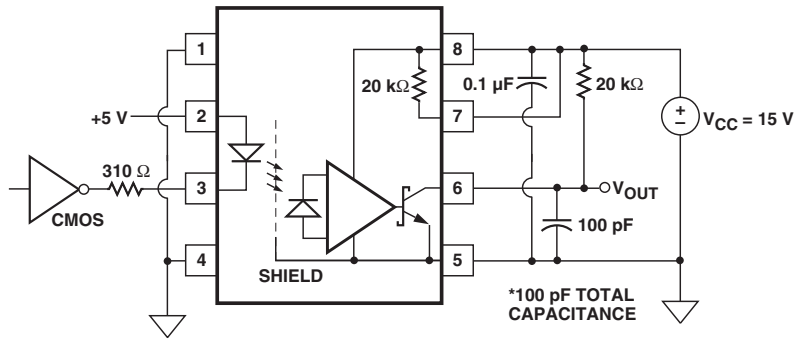
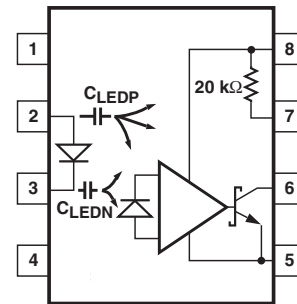
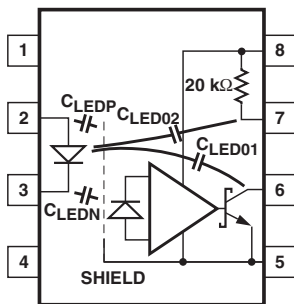
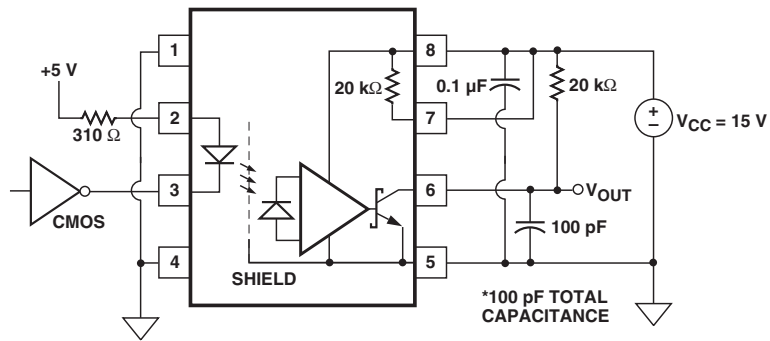

Figure 13. Recommended LED drive circuit
Figure 14. Optocoupler input to output capacitance model for unshielded optocouplers
Figure 15. Optocoupler input to output capacitance model for shielded optocouplers
Figure 16. LED drive circuit with resistor connected to LED anode (not recommended)
Without a detector shield, the dominant cause of optocoupler CMR failure is capacitive coupling from the input side of the optocoupler, through the package, to the detector IC as shown in Figure 14. The HCPL-530X improves CMR performance by using a detector IC with an optically transparent Faraday shield, which diverts the capacitively coupled current away from the sensitive IC circuitry. However, this shield does not eliminate the capacitive coupling between the LED and the optocoupler output pins and output ground as shown in Figure 15. This capacitive coupling causes perturbations in the LED current during common mode transients and becomes the major source of CMR failures for a shielded optocoupler. The main design objective of a high CMR LED drive circuit becomes keeping the LED in the proper state (on or off) during common mode transients. For example, the recommended application circuit (Figure 13), can achieve 10 kV/ μ s CMR while minimizing component complexity. Note that a CMOS gate is recommended in Figure 13 to keep the LED off when the gate is in the high state.
Another cause of CMR failure for a shielded optocoupler is direct coupling to the optocoupler output pins through C_{LEDO1} and C_{LEDO2} in Figure 15. Many factors influence the effect and magnitude of the direct coupling including: the use of an internal or external output pull-up resistor, the position of the LED current setting resistor, the connection of the unused input package pins, and the value of the capacitor at the optocoupler output (CL).
The placement of the LED current setting resistor affects the ability of the drive circuit to keep the LED on during transients and interacts with the direct coupling to the optocoupler output. For example, the LED resistor in Figure 16 is connected to the anode. Figure 17 shows the AC equivalent circuit for Figure 16 during common mode transients. During a $+dV_{CM}/dt$ in Figure 17, the current available at the LED anode (I_{TOTAL}) is limited by the series resistor. The LED current (I_F) is reduced from its DC value by an amount equal to the current that flows through C_{LEDP} and C_{LEDO1} . The situation is made worse because the current through C_{LEDO1} has the effect of trying to pull the output high (toward a CMR failure) at the same time the LED current is being reduced. For this reason, the recommended LED drive circuit (Figure 13) places the current setting resistor in series with the LED cathode. Figure 18 is the AC equivalent circuit for Figure 13 during common mode transients. In this case, the LED current is not reduced during a $+dV_{CM}/dt$ transient because the current flowing through the package capacitance is supplied by the power supply. During a $-dV_{CM}/dt$ transient, however, the LED current is reduced by the amount of current flowing through C_{LEDN} . But better CMR performance is achieved since the current flowing in C_{LEDO1} during a negative transient acts to keep the output low.
Coupling to the LED and output pins is also affected by the connection of pins 1 and 4. If CMR is limited by perturbations in the LED on current, as it is for the recommended drive circuit (Figure 13), pins 1 and 4 should be connected to the input circuit common. However, if CMR performance is limited by direct coupling to the output when the LED is off, pins 1 and 4 should be left unconnected.
A high CMR LED drive circuit must keep the LED off ($V_F \leq V_{F(OFF)}$) during common mode transients. For example, during a $+dV_{CM}/dt$ transient in Figure 18, the current flowing through C_{LEDN} is supplied by the parallel combination of the LED and series resistor. As long as the voltage developed across the resistor is less than $V_{F(OFF)}$ the LED will remain off and no common mode failure will occur. Even if the LED momentarily turns on, the 100 pF capacitor from pins 6-5 will keep the output from dipping below the threshold. The recommended LED drive circuit (Figure 13) provides about 10 V of margin between the lowest optocoupler output voltage and a 3 V IPM threshold during a 10 kV/ μ s transient with $V_{CM} = 1000$ V. Additional margin can be obtained by adding a diode in parallel with the resistor, as shown by the dashed line connection in Figure 18, to clamp the voltage across the LED below $V_{F(OFF)}$.
Since the open collector drive circuit, shown in Figure 19, cannot keep the LED off during a $+dV_{CM}/dt$ transient, it is not desirable for applications requiring ultra high CMR_H performance. Figure 20 is the AC equivalent circuit for Figure 16 during common mode transients. Essentially all the current flowing through C_{LEDN} during a $+dV_{CM}/dt$ transient must be supplied by the LED. CMR_H failures can occur at dv/dt rates where the current through the LED and C_{LEDN} exceeds the input threshold. Figure 21 is an alternative drive circuit which does achieve ultra high CMR performance by shunting the LED in the off state.